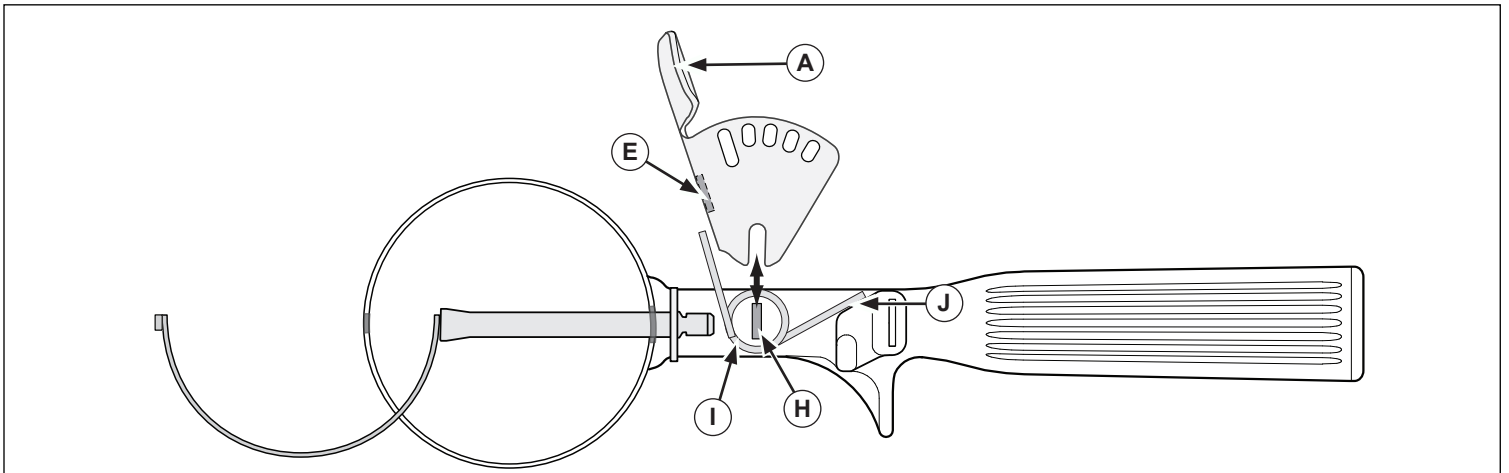

Figure 6. Spring, Spring Stop and Spring Tab
- Slide the pivot rack (A) off the post (H). See Figure 6. Remove and discard Spring (I).
- Place the new spring (I) onto the post (H) setting one arm on the spring stop (J). See Figure 6.